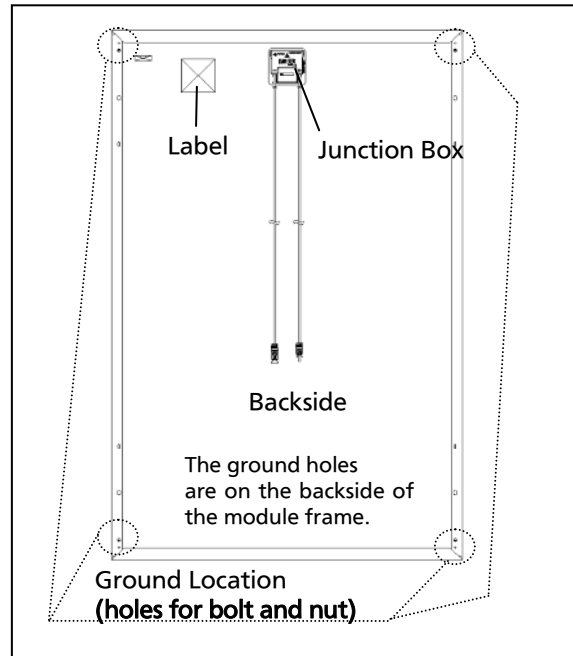

Figure 3.1
- Each ledge on the module frame has two holes for bolts (0.205" diameter (5.2 mm)). These ground holes are marked with a "G" or "ground mark" adjacent to their location on the frame rail (see Figure 3.1).
#### Method- Use a bolt and nut (see Figures 3.1 and 3.2)
illustrated in Figure 3.1.